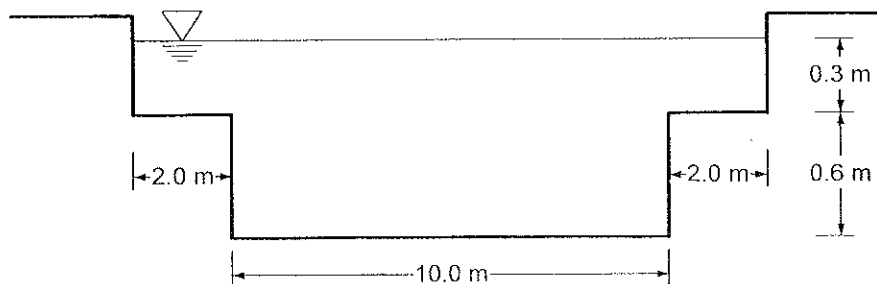

Figure Q3
- (c) Estimate the discharge over the stepped weir shown in Figure Q3. The coefficient of discharge, C_d for all section is 0.61 . (04 marks)